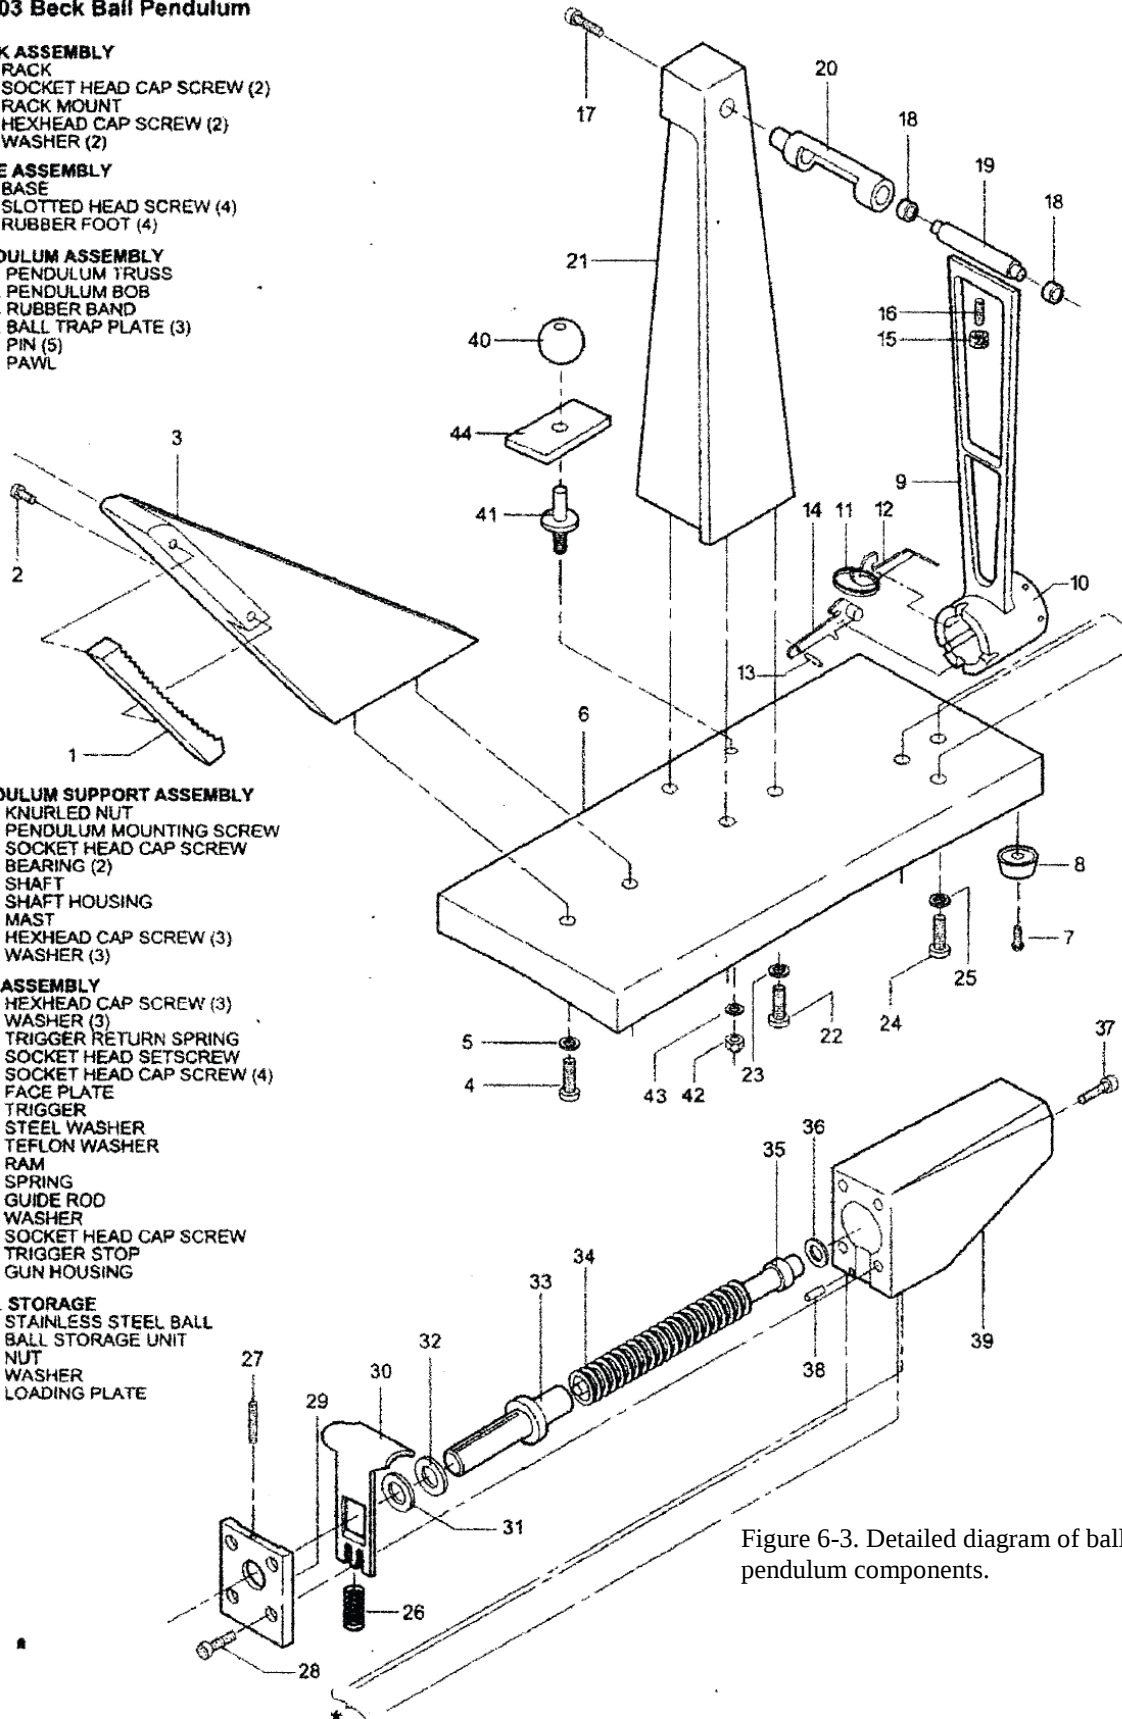

Figure 6-3. Detailed diagram of ballistic pendulum components.
A detailed diagram of all components of the ballistic pendulum is shown in Fig. 6-3. This procedure will refer to various parts of the pendulum using the numbers in Fig. 6-3. Example: “The rack (1) is attached to the rack mount (3) using socket head cap screws (2).”